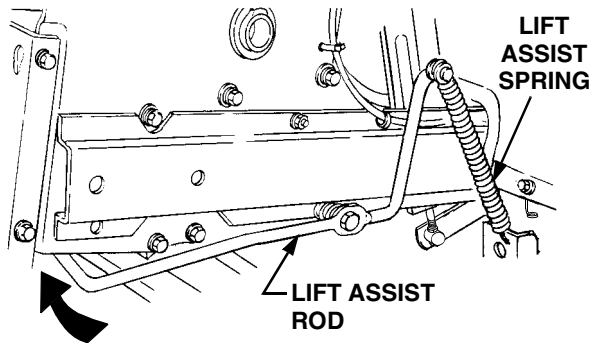

Figure 57
- Tension the spring by pushing downward and then inward on the rear of the lift assist rod, so that the flange at the rearward end of the rod is inside the tractor frame (See Figure 57).